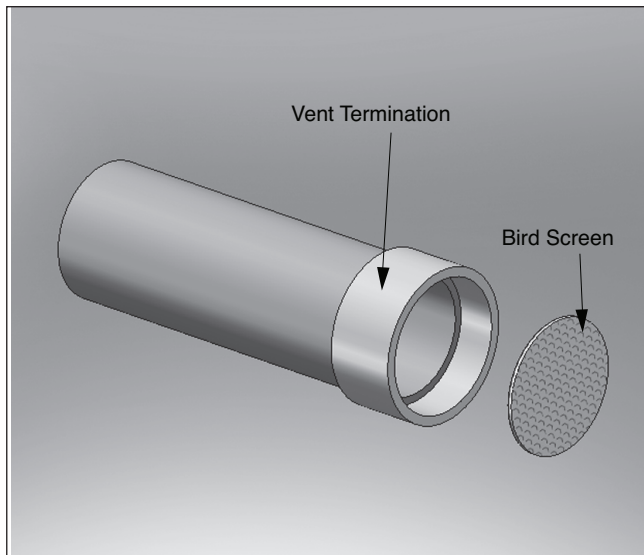
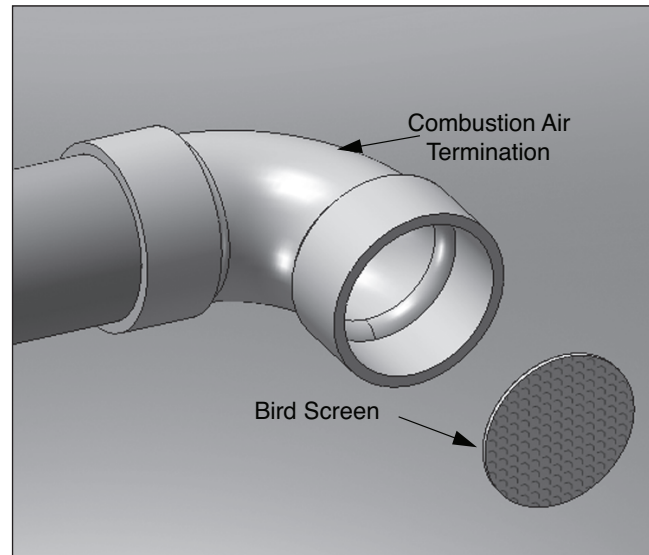

Fig. 9 - Sidewall Vent Bird Screen Installation
Fig. 10 - Sidewall Combustion Air Bird Screen Installation
1. The vent and combustion air terminations must include a factory supplied "bird screen" installed as shown in **Fig. 9** and **Fig. 10 on page 20**.
1. The vent and combustion air terminations must include a factory supplied "bird screen" installed as shown in *Fig. 3 on page 16* & *Fig. 10 on page 20*.